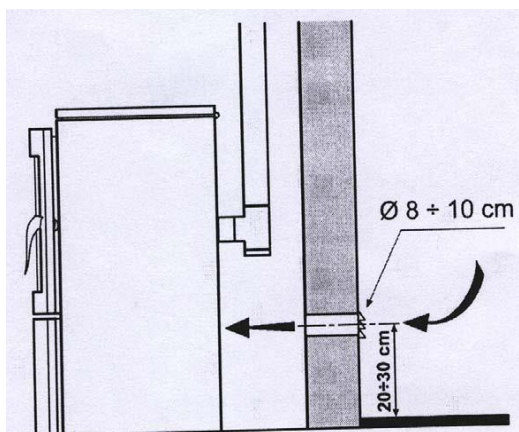

Figure 8: Minimum gaps for setting up ventilation grilles.
3.5. COMBUSTION AIR SUPPLY (Figure 8)